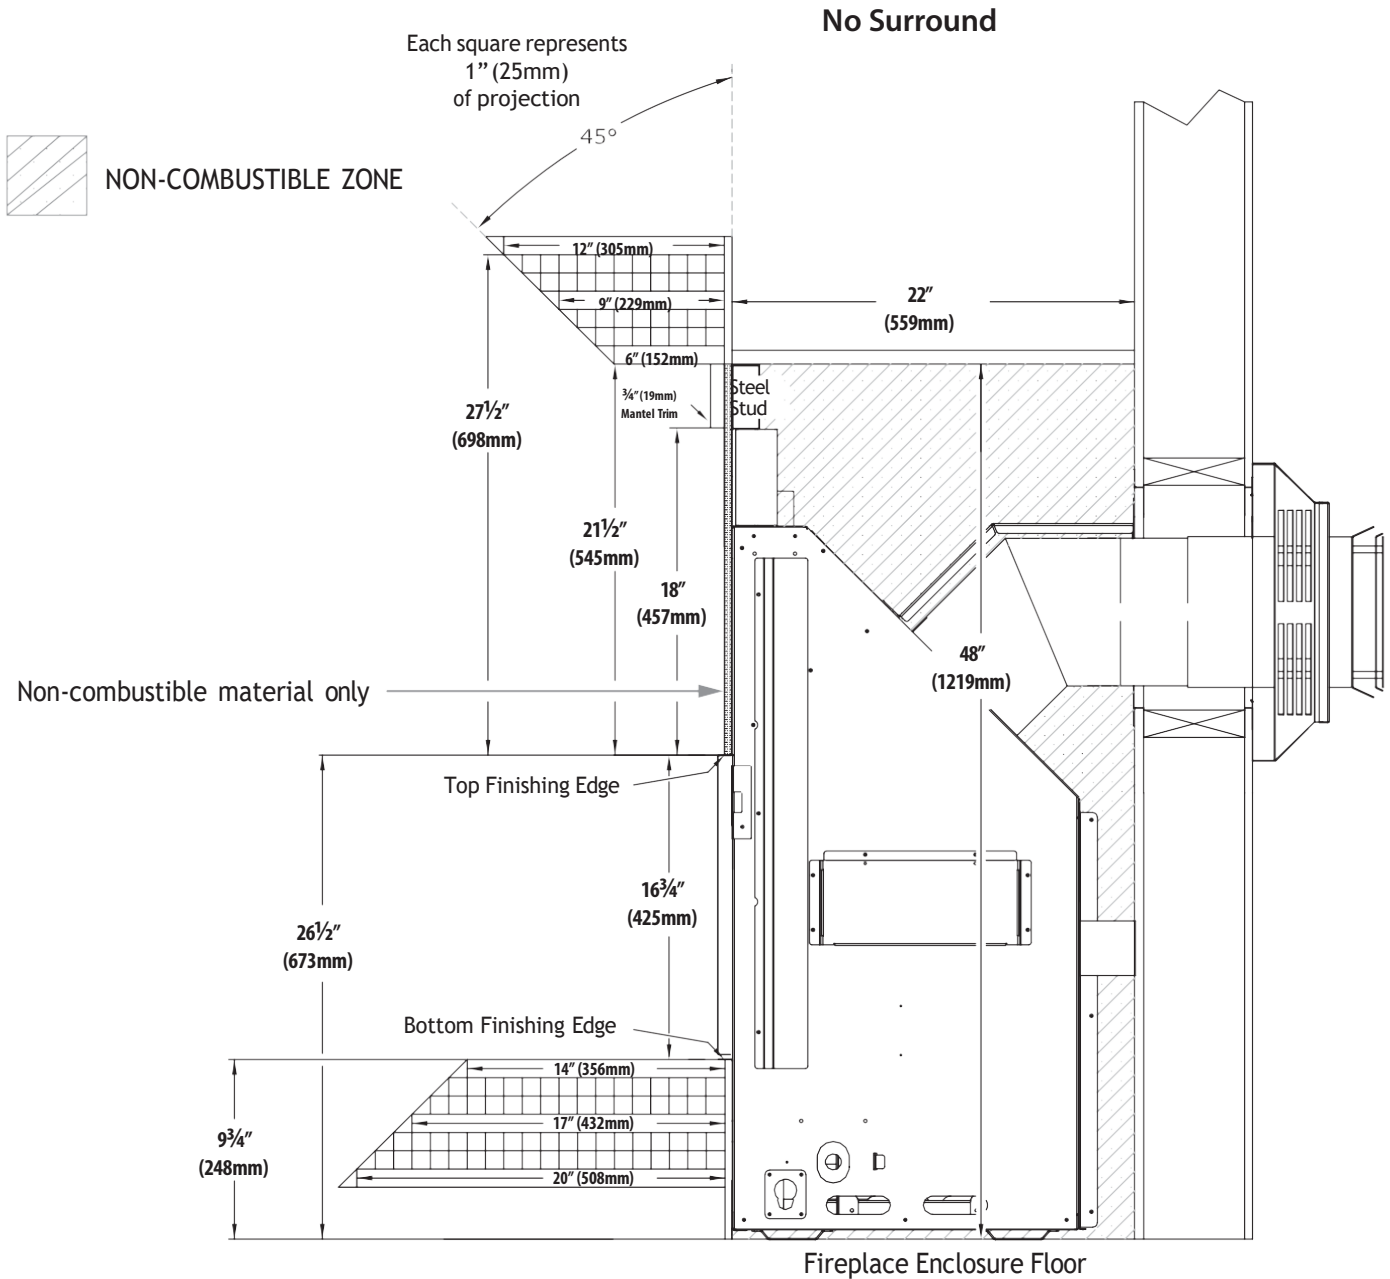

Figure 4.1, Combustible Mantel and Hearth Requirements
- **Combustible Mantel Projections (no surround):** As referenced in Figure 4.1, the 3/4" mantel trim can start at 18" (457mm) above the top finishing edge with a 6" (152mm) mantel starting at 21-1/2" (545mm) above the finishing edge. Mantel projections can increase 1" (25mm) of depth for every 1" (25mm) of height starting at the 6" (152mm) mantel.
- **Combustible Hearth:** As referenced in Figure 4.1, the bottom of the finishing edge can be flush with the top of the hearth if you are not using any optional surrounds. Refer to section 4.3 on page 36 if installing with optional surround.